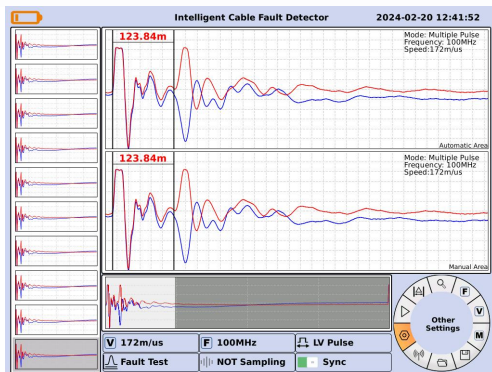

Figure 3.15 Main Menu for Other Settings
As shown in Figure 3.15, rotate the "Photoelectric Rotator ⑪" to switch the focus to .